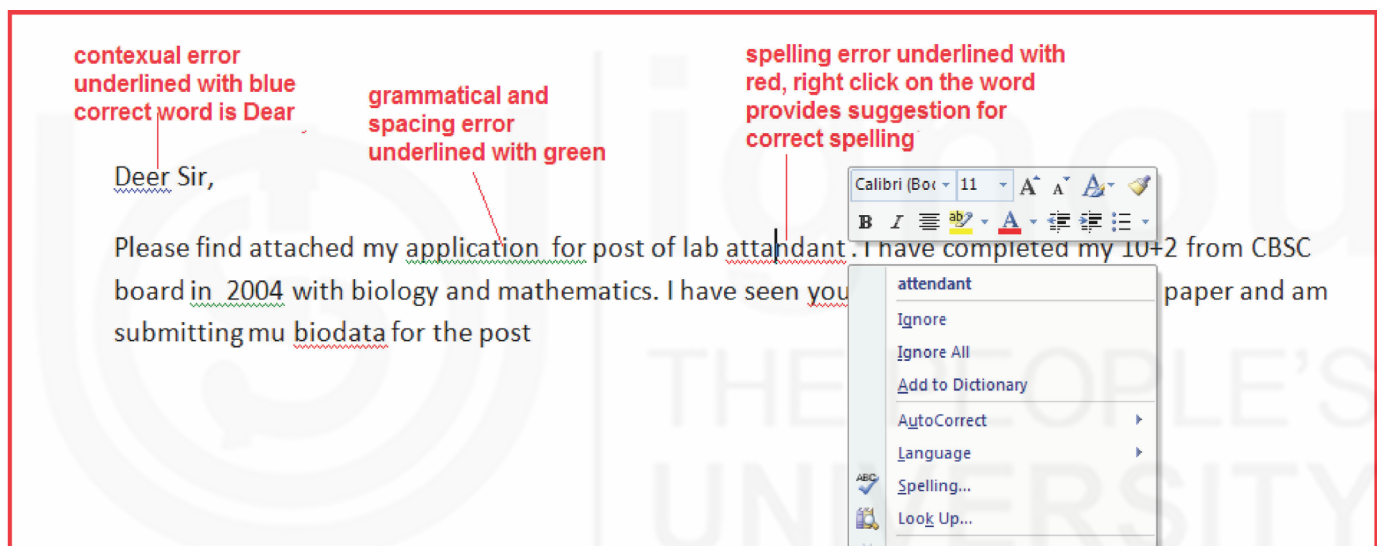

Fig.14.5: Proof reading text
- If there is a spelling or grammar error in the text automatically a coloured wavy line appears under the word. Red line appears under a spelling error; green line appears for a grammatical error and blue for a contextual error (Fig. 14.5)